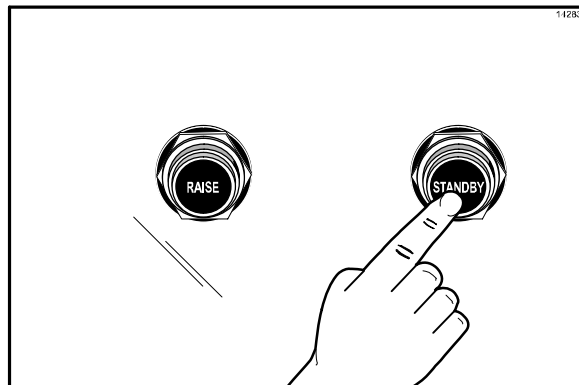

Figure 22
- Press the Standby button to close the platen. (See Figure 22.)